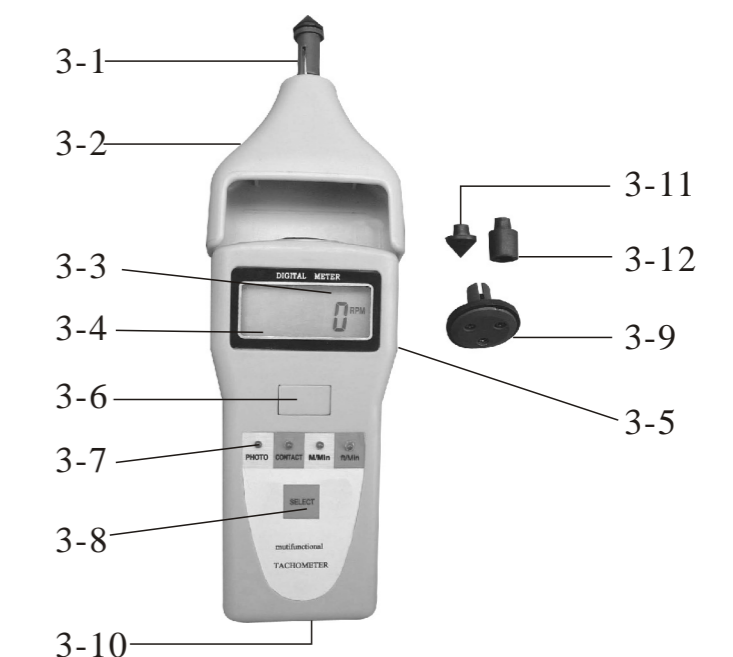

Fig. 1
- (1) When it is necessary to replace the battery, i.e. battery voltage less than approx. 5v, symbol "⊖+⊕" will appear on the Display.
- (2) Slide the battery cover (Fig.1,3-10) away from the instrument and remove the batteries.
- (3) Install the batteries (4x1.5VAA / UM-3) correctly into the case.
- (4) If the instrument is not to be used for any extended period, remove batteries.